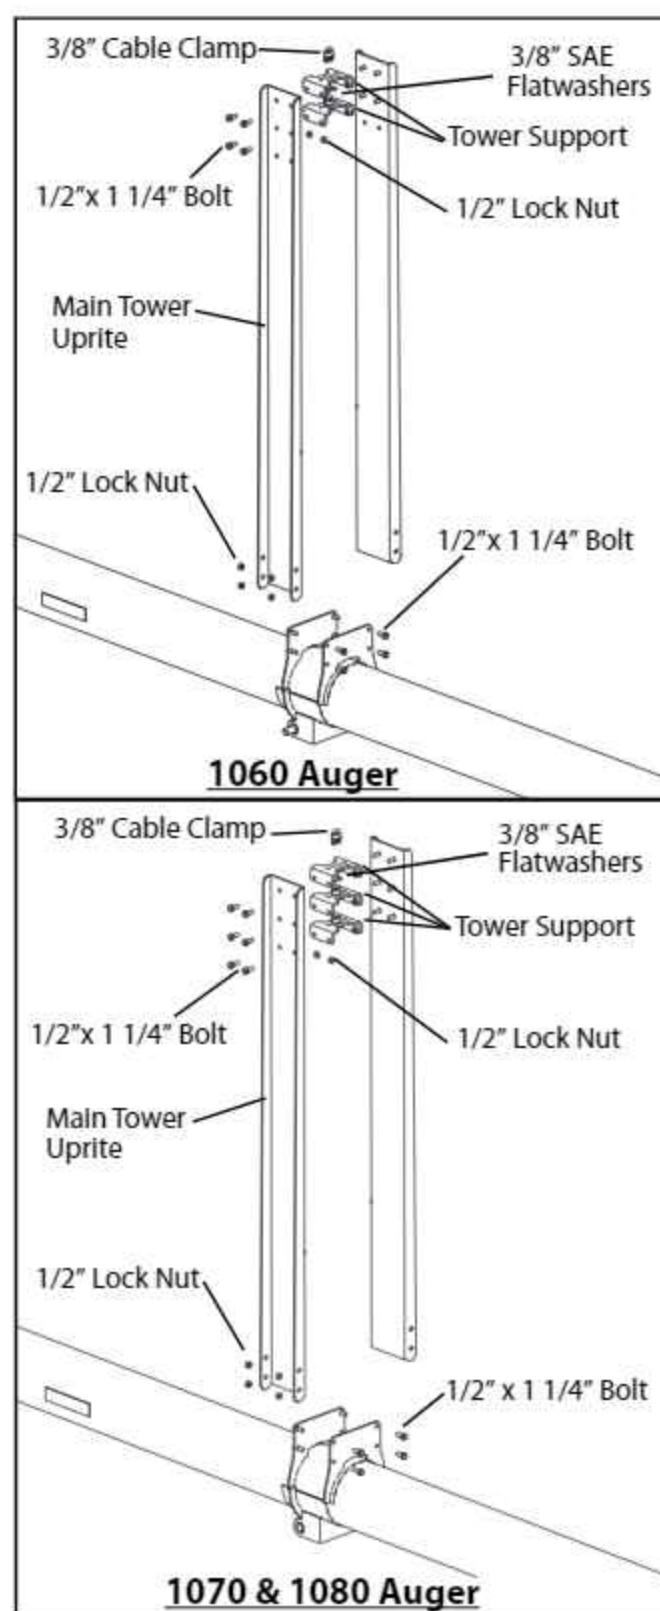

FIG. 3-10. Installing the Main Truss Tower
1. Loosely attach the Main Tower Uprights to the tube using four 1/2" x 1 1/4" bolts and lock nuts in each. Do not fully tighten the nuts yet. See Fig. 3-10.